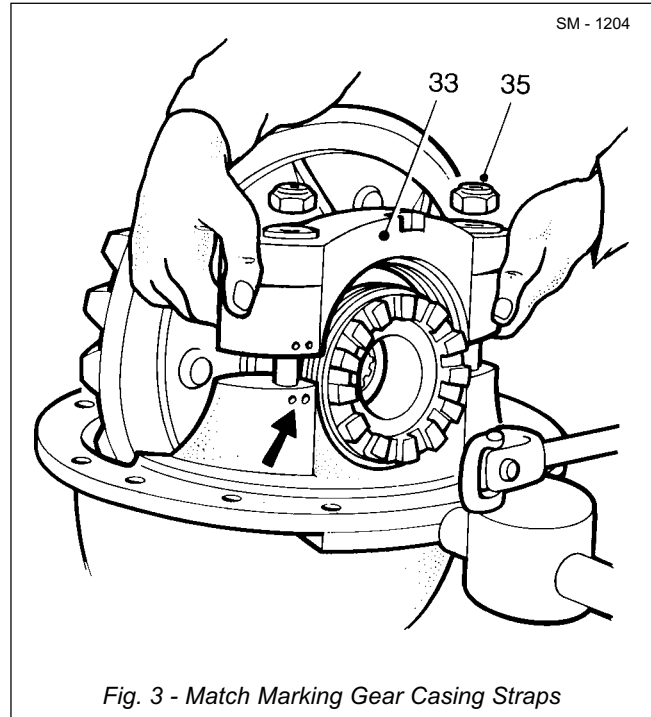

Fig. 3 - Match Marking Gear Casing Straps
1. Match mark straps (33) as shown in Fig. 3 to ensure correct rebuild position then remove nuts (35) and washers (34).
2. Lift off two straps (33), adjusting nuts (23) and split pins (51).
3. Lift complete differential and crownwheel assembly from gear casing (17). Place assembly on bench with crownwheel (25) teeth uppermost.